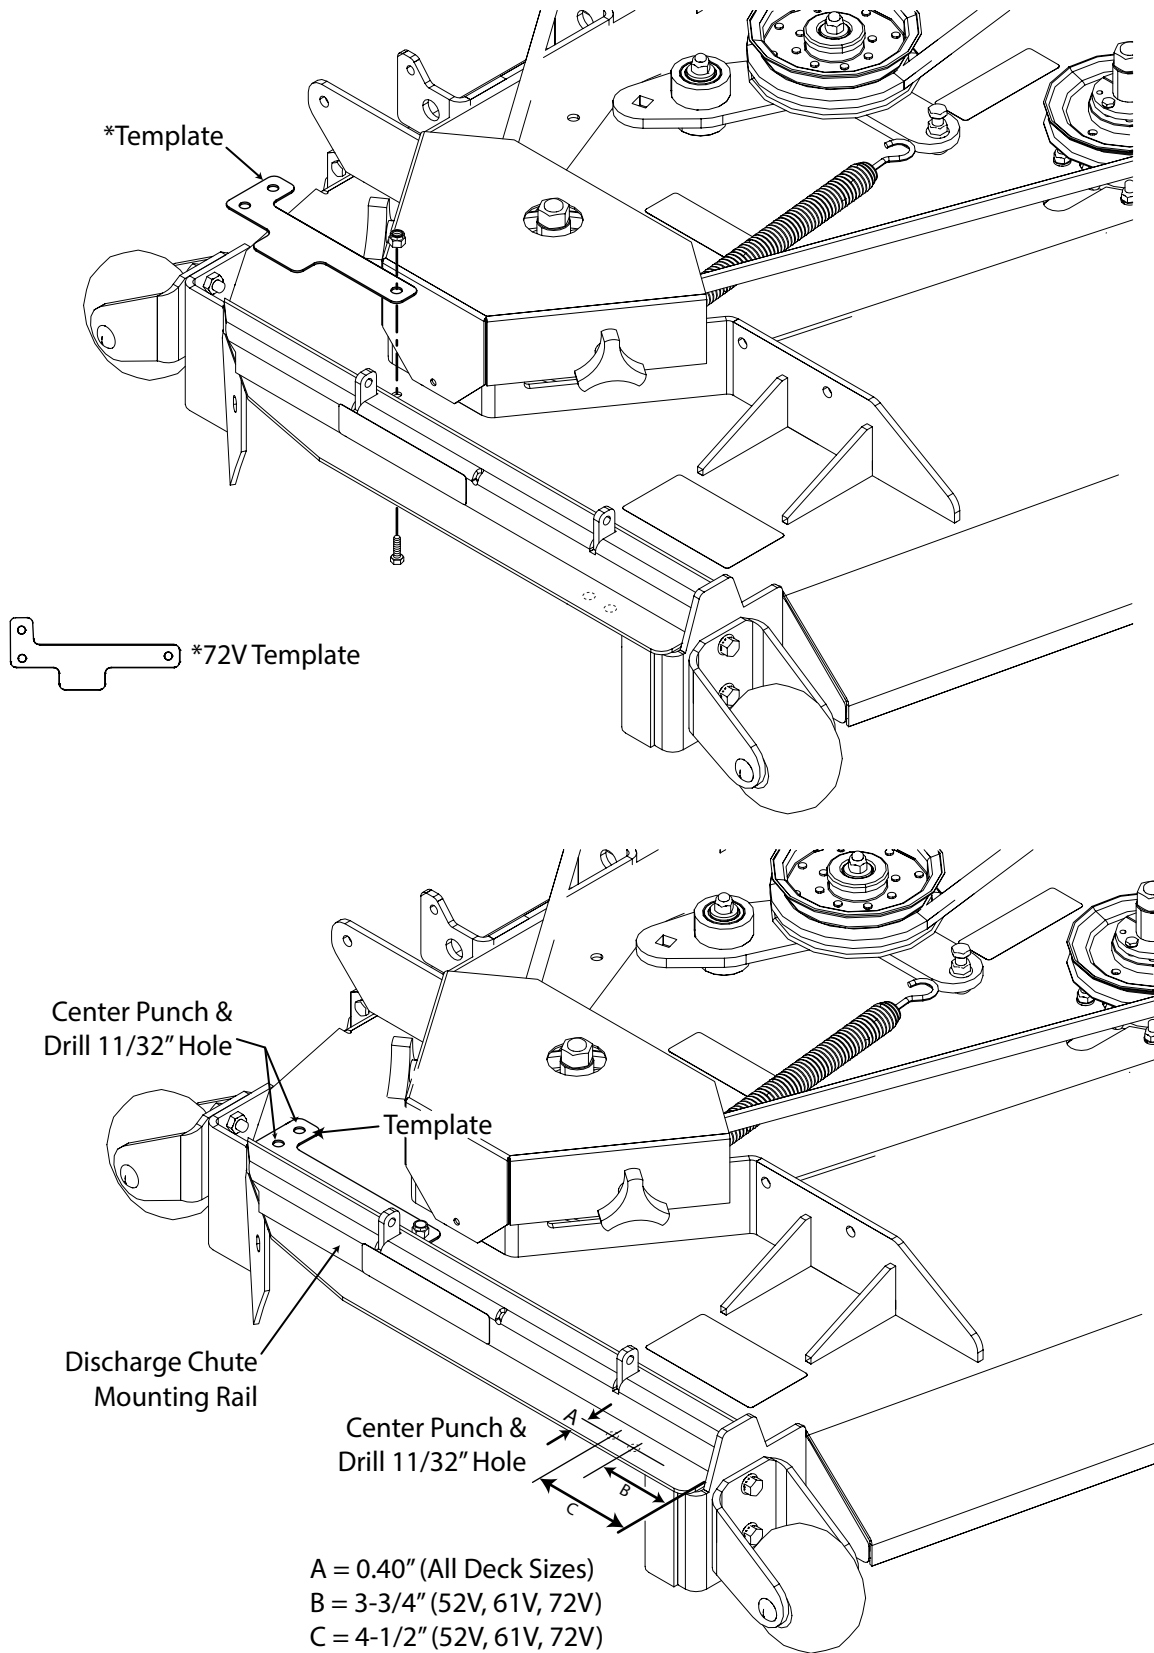

Figure 3-20. Locating and Drilling the Mounting Holes for STII/SCZII -72V
1. Remove and retain the two (2) 5/16 - 18 x 1 1/4" bolts securing the cutting height bracket to the frame. See Figure 3-20.